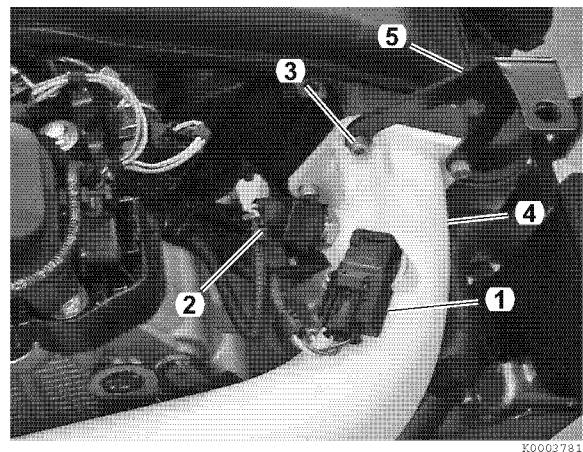

Figure 5-128
3. Disconnect electrical connectors from charge air pressure sensor (1, Figure 5-128) and charge air temperature sensor (2, Figure 5-128).
4. Remove four screws (3, Figure 5-128). Disconnect charge air pipe (4, Figure 5-128) and bracket (5, Figure 5-128).